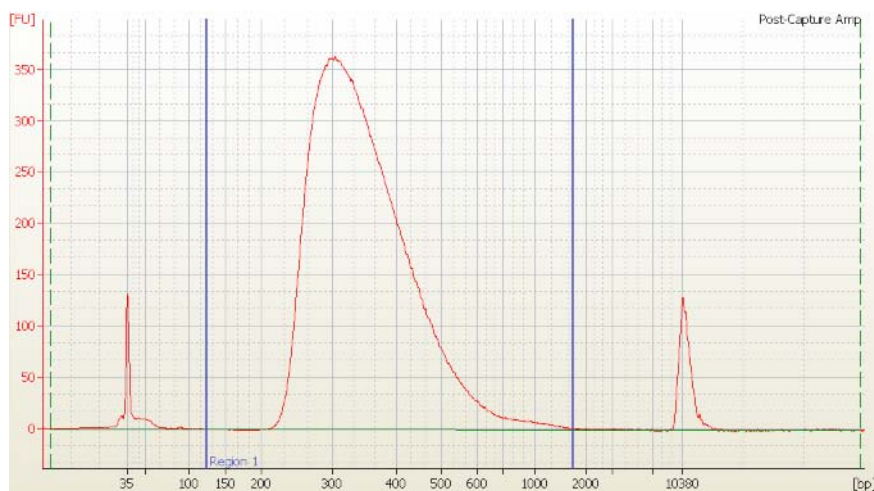

Figure 13 Analysis of indexed DNA using the High Sensitivity DNA Assay. The electropherogram shows a peak in the size range of approximately 300 to 400 bp.
- 6 Verify that the electropherogram shows an average DNA fragment size of approximately 300 to 400 bp. A sample electropherogram is shown in Figure 13.